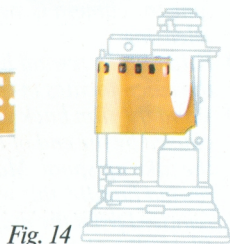

Fig. 14
- Lay the film over the sprocket and clip the tongue behind one of the white clips on the take up spool (fig. 14).